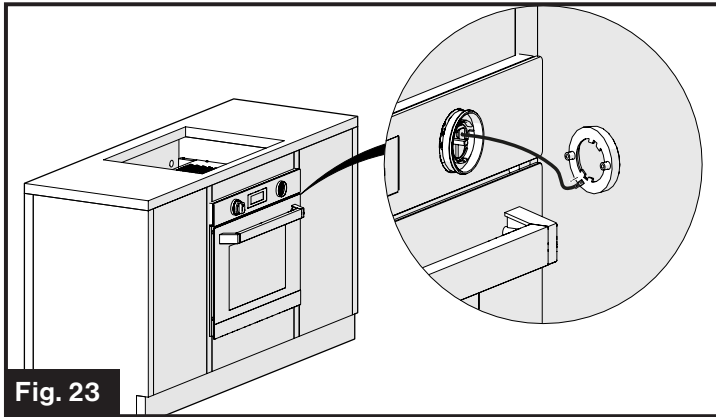

Fig. 23
- Remove the LED assembly and disconnect the wire from the base of the LED assembly. (Fig. 23)